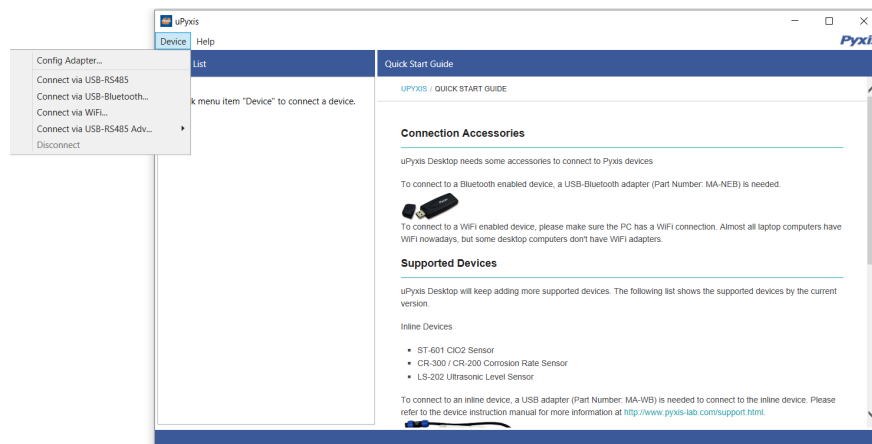

Figure 24.
4. On **uPyxis®** Desktop App, click Device → **Connect via USB-Bluetooth** (Figure 24).
5. If the connection is successful, the SP-350 and its Serial Number (SN) will be displayed in the left pane of the **uPyxis®** window.